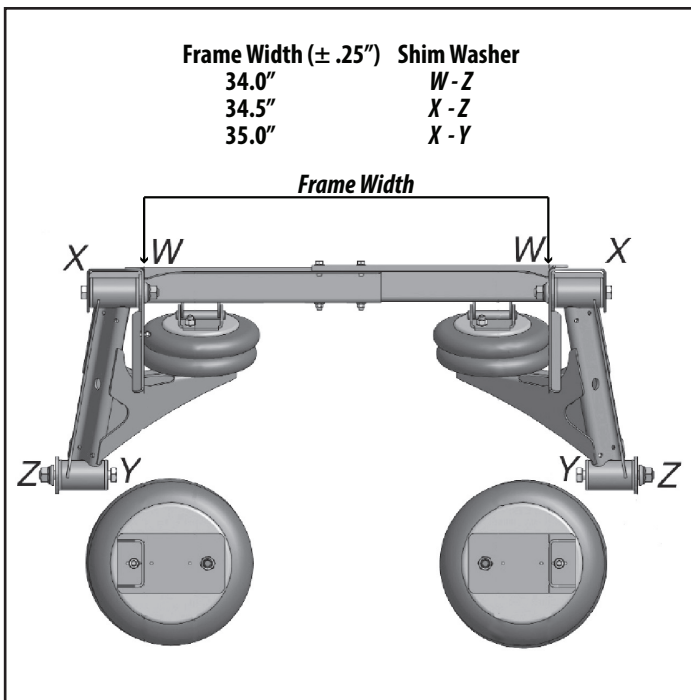

Figure 6. Adjust frame width by securing cross channel at desired width and installing shim washers at marked locations for correct alignment.
- Note that the wear washer on each side of the the Torque Rod Assembly will vary according to the frame width set by the cross channel (Figure 6).
- Hanger-End Torque Rod Assembly - Press inner sleeve into the installed bushing. Center the sleeve so that both ends extend slightly past the sides of the bushing/wear washer. Assemble the pivot connection with wear washer on appropriate side of the bushing (Figure 6).
- Axle-End Torque Rod Assembly - Press inner sleeve into the installed bushing. Center the sleeve so that both ends extend slightly past the sides of the bushing. Assemble the pivot connection with wear washer on appropriate side of the bushing (Figure 6).